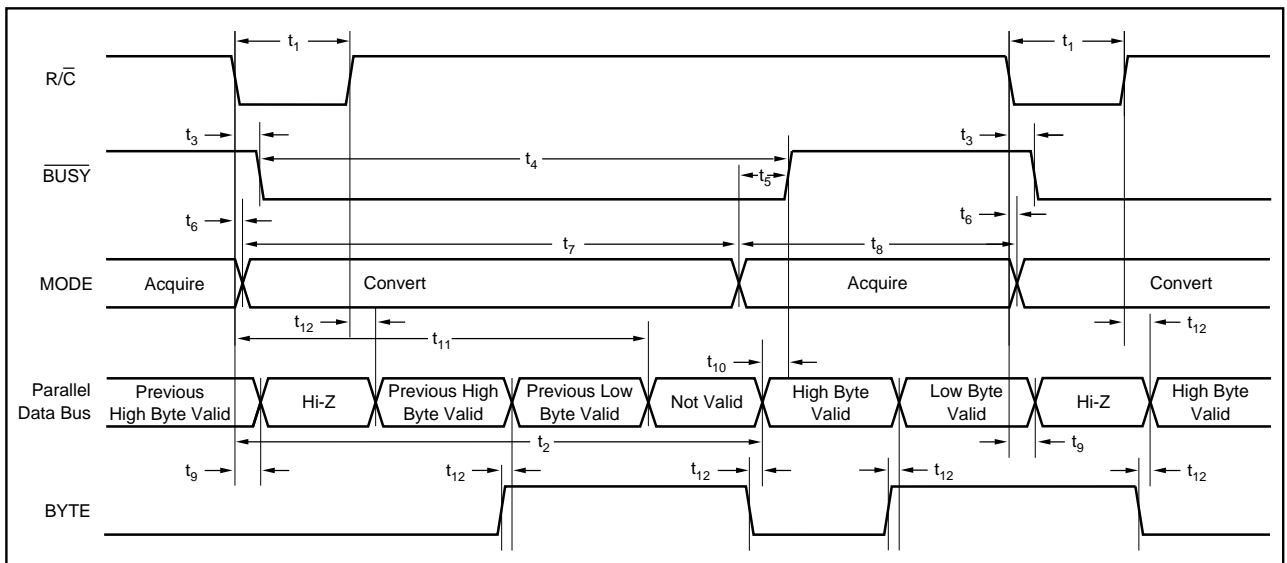

FIGURE 2. Conversion Timing with Parallel Output ( $\overline{\text{CS}}$  and  $\text{DATACLK}$  tied LOW,  $\overline{\text{EXT/INT}}$  tied HIGH).
The ADS7806 will begin tracking the input signal at the end of the conversion. Allowing 25µs between convert commands assures accurate acquisition of a new signal. Refer to Tables III and IV for a summary of  $\overline{CS}$ ,  $R/\overline{C}$ , and  $\overline{BUSY}$  states and Figures 2 through 6 for timing diagrams.
NOTE: (1) See Figures 2 and 3 for constraints on data valid from conversion "n-1".
After conversion 'n' is completed and the output registers have been updated,  $\overline{\text{BUSY}}$  (pin 24) will go HIGH. Valid data from conversion 'n' will be available on D7-D0 (pins 9-13 and 15-17).  $\overline{\text{BUSY}}$  going high can be used to latch the data. Refer to Table VI and Figures 2 and 3 for timing constraints.
After conversion 'n' has been initiated, valid data from conversion 'n-1' can be read and will be valid up to 12 $\mu\text{s}$  after the start of conversion 'n'. Do not attempt to read data beyond 12 $\mu\text{s}$  after the start of conversion 'n' until  $\overline{\text{BUSY}}$  (pin 24) goes HIGH; this may result in reading invalid data. Refer to Table VI and Figures 2 and 3 for timing constraints.